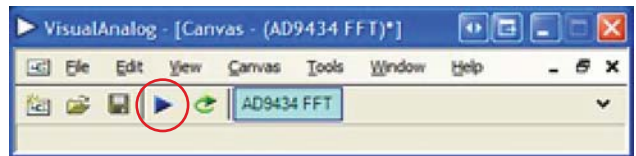

Figure 15. Run Button (Encircled in Red) in the VisualAnalog Toolbar, Collapsed Display
- Click the **Run** button in the **VisualAnalog** toolbar (see Figure 15).